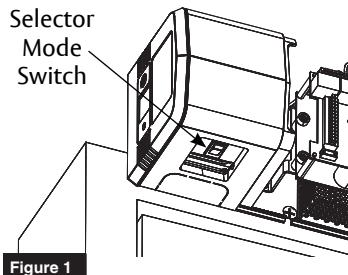

Figure 1
1. Open union assembly access door and flip selector mode switch to OFF position. (Figure 1)